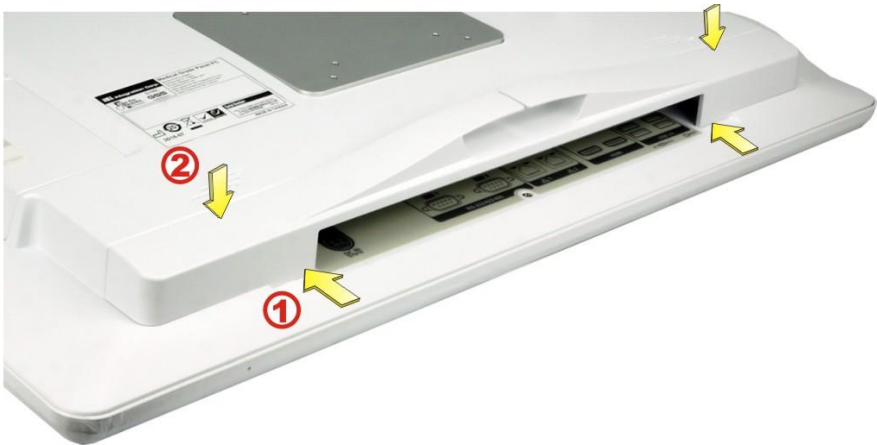

Figure 3-11: Cable Cover Installation
- Step 1:** Align the two tabs on cable cover with the slots on the bottom panel of the POCm-W22/24C-RPL (**Figure 3-11**). Then, insert the tabs into the slots.
- Step 2:** Push the cable cover down to clip the cover into place (**Figure 3-11**).